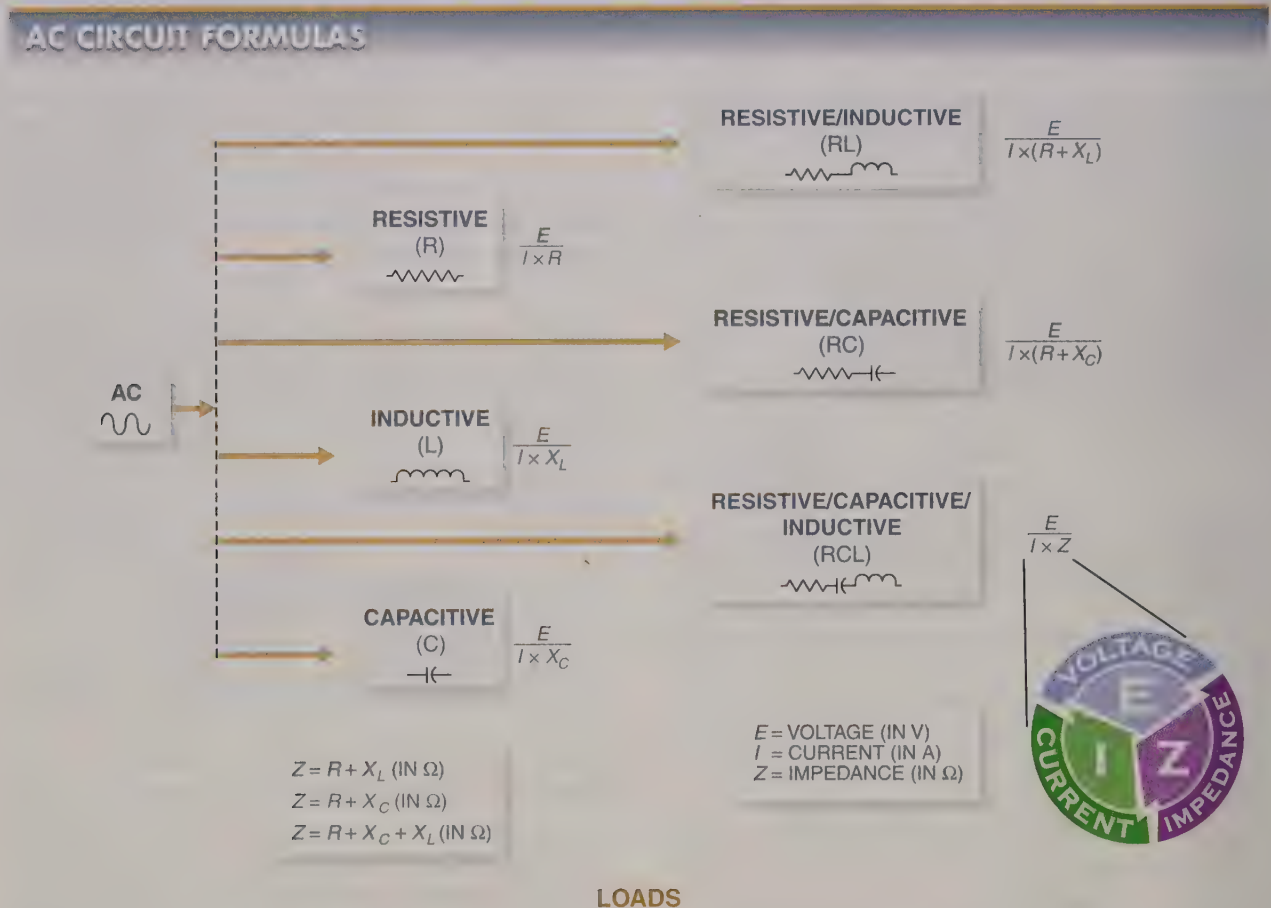

Figure 1-44. Ohm's law can be used on circuits with impedance by substituting Z (impedance) for R (resistance) in the formula.
relationship between voltage (E), current (I), and impedance (Z) may be visualized by presenting the relationship in pie chart form where the known variables can be used to calculate the unknown variable. See Figure 1-44.